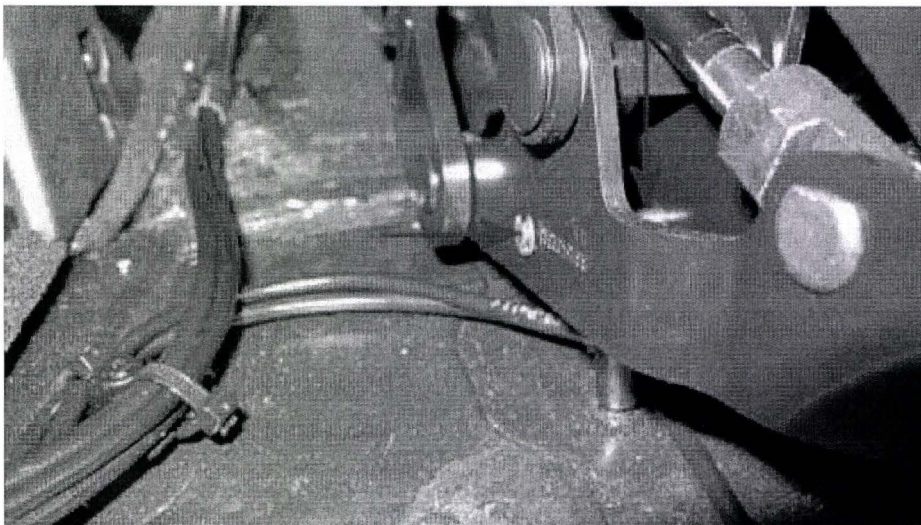

Figure 5
3. The pin securing the drive end of the Bowden cable can, for ease of assembly, be inserted in either direction (see Figure 5)